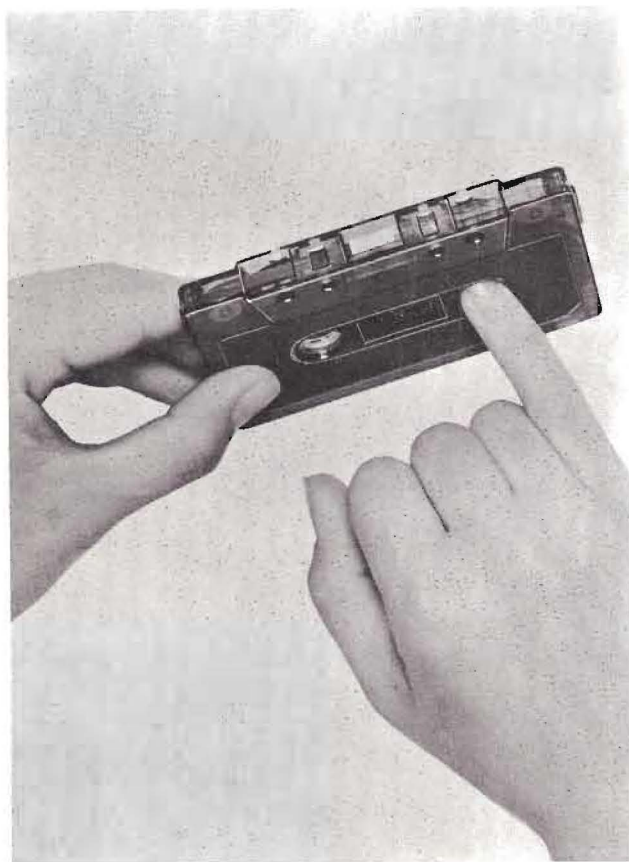

Figure 4. Cassette Preparation
2. Before inserting the cassette, take up the slack of the tape to prevent it from becoming entangled around the capstan. Twist the tape hub inside the cassette with your fingernail or with a pencil. (See Figure 4.)
When taking up the slack in the cassette before inserting it for recording, advance the tape so that the spliced area of the tape is ready to pass the recording head (see Figure 4). By knowing exactly where the recordable tape begins, you can assured that the beginning of the program will be recorded.